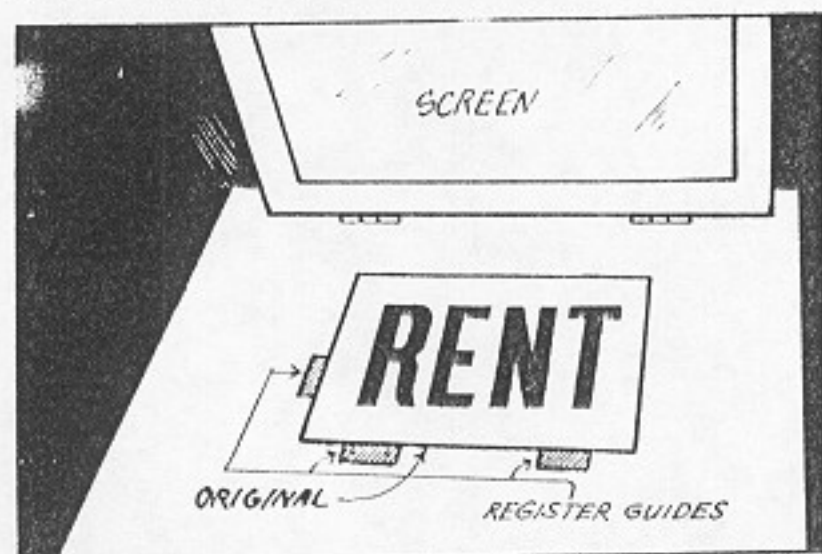

Fig. 73. Original Registered on Printing Surface
1. Place the copy to be reproduced directly under the screen, Fig. 73. Register it as shown.